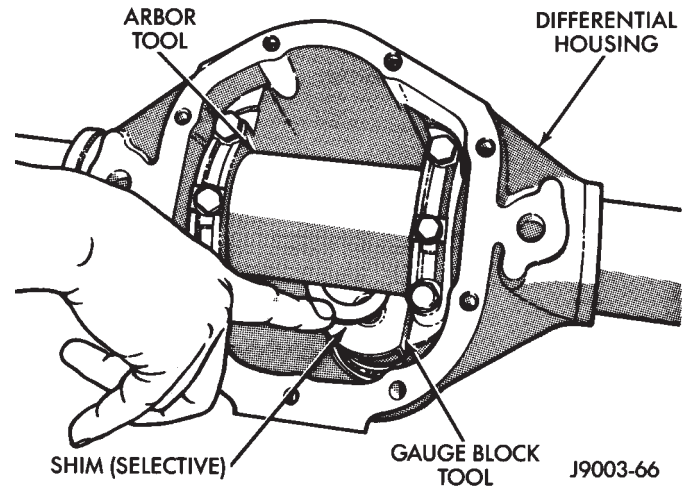

Fig. 22 Depth Shim(s) Selection
(5) Loosen the compression nut tool. Lubricate the pinion gear front and rear bearings with gear lubricant. Re-tighten the compression nut tool to 1 to 3 N·m (15 to 25 in. lbs.) torque. Rotate the pinion gear several complete revolutions to align the bearing rollers.
(6) Install Gauge Block SP-5383 at the end of SP-5385. Install Cap Screw (SP-536) and tighten.
(7) Position Arbor (SP-6029) in the differential housing (Fig. 22).
(8) Center the tool. Place a piece of 0.002 inch shim stock at each end of the arbor tool. Install the bearing caps on the arbor tool. Tighten the cap bolts to 14 N-m (10 ft. lbs.) torque.
(9) Trial fit depth shim(s) between the arbor tool and gauge block tool (Fig. 22). **The depth shim(s) fit must be snug but not tight (drag friction of a feeler gauge blade).**